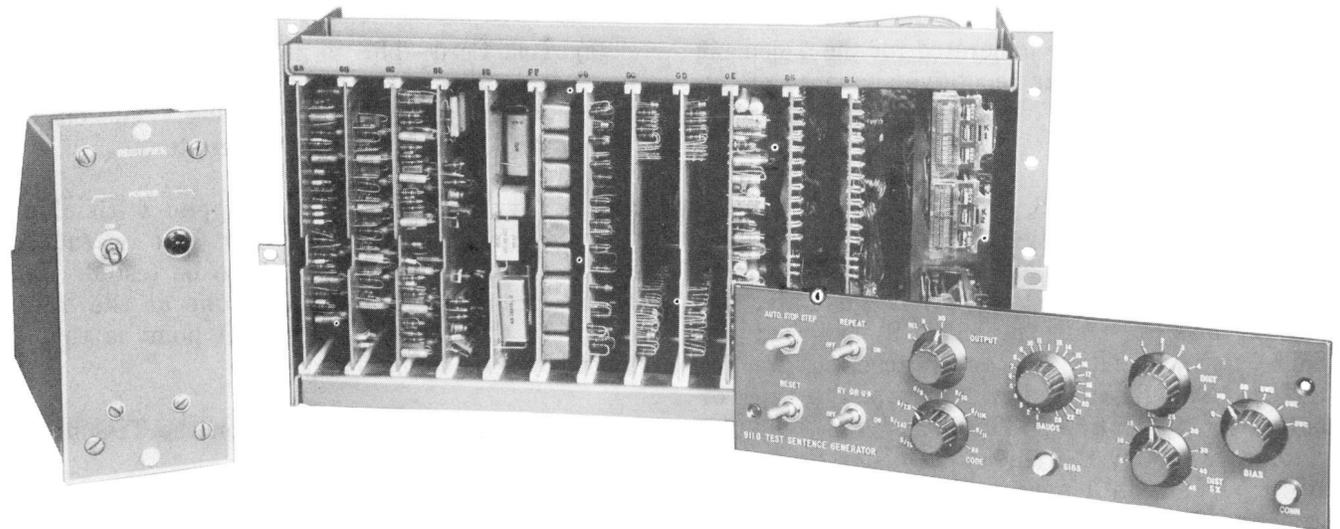

Fig. 1—911G Test Sentence Generator, List 1—Control Panel Shown
1.04 The 911G Test Sentence Generator (Fig. 1) provides serial data test signals to test teletypewriters, data equipment, and transmission facilities.